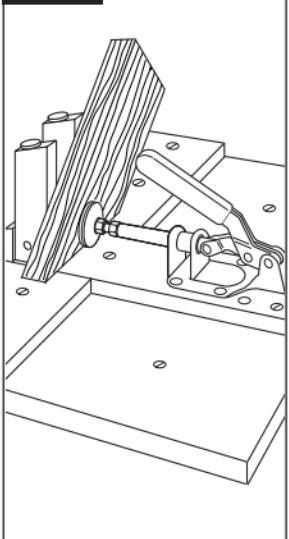

Fig. 1a
- Setting up for portable use - (**Fig. 1a**)